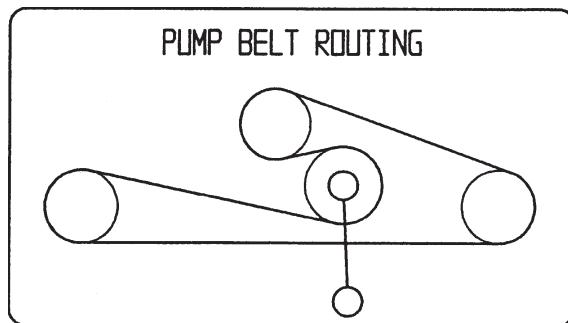

Figure 61
3. Pull spring loaded idler down and align below traction belt. Release pressure on spring loaded idler (Fig. 61).
1. Pull the spring loaded idler down and remove traction belt from the engine and hydro pump pulleys (Fig. 61). Remove belt between pulleys.
2. Install new belt around engine and hydro pump pulleys (Fig. 61).